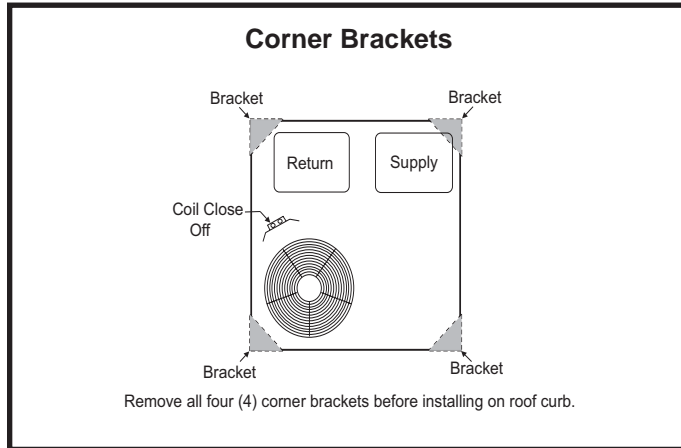

Figure 1
This unit is shipped with four (4) corner brackets in place on the underside of the unit (see Figure 1). **All four (4) brackets must be removed before unit is installed onto roof curb assembly.**